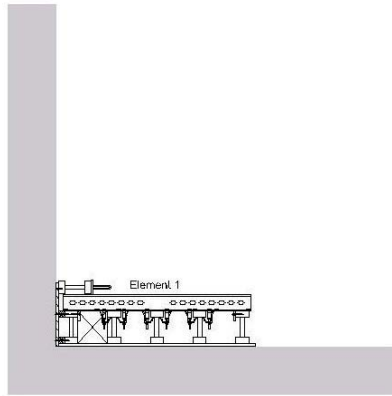

Fig. B5.03
1. Mount element 1 supported by Push-Pull Props and Kicker Braces in vertical position. (Fig.B5.03)